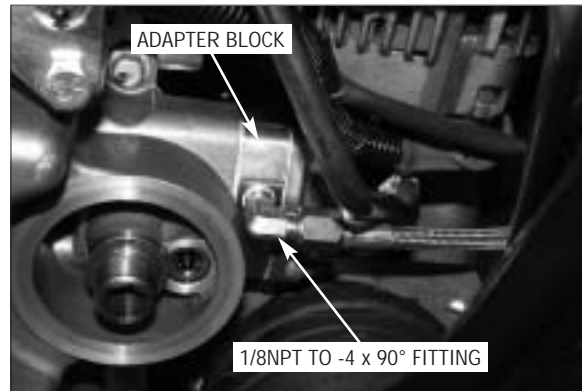

Fig. 4-a
- E. Using the adapter, the supplied factory gasket and the supplied longer 6mm screws, assemble the components as shown in *Fig 4-a*.